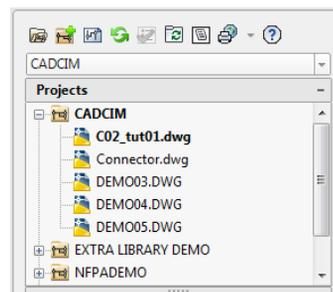

Figure 2-65 The **PROJECT MANAGER** displaying the **CADCIM** project with the *DEMO02.dwg* drawing replaced by the *Connector.dwg* drawing
- Select the *Connector.dwg* drawing from this dialog box and choose the **Select** button; the **Apply Project Defaults to Drawing Settings** message box is displayed. Next, choose the **Yes** button; the *DEMO02.dwg* is replaced with the *Connector.dwg* drawing in the **CADCIM** project, as shown in Figure 2-65.